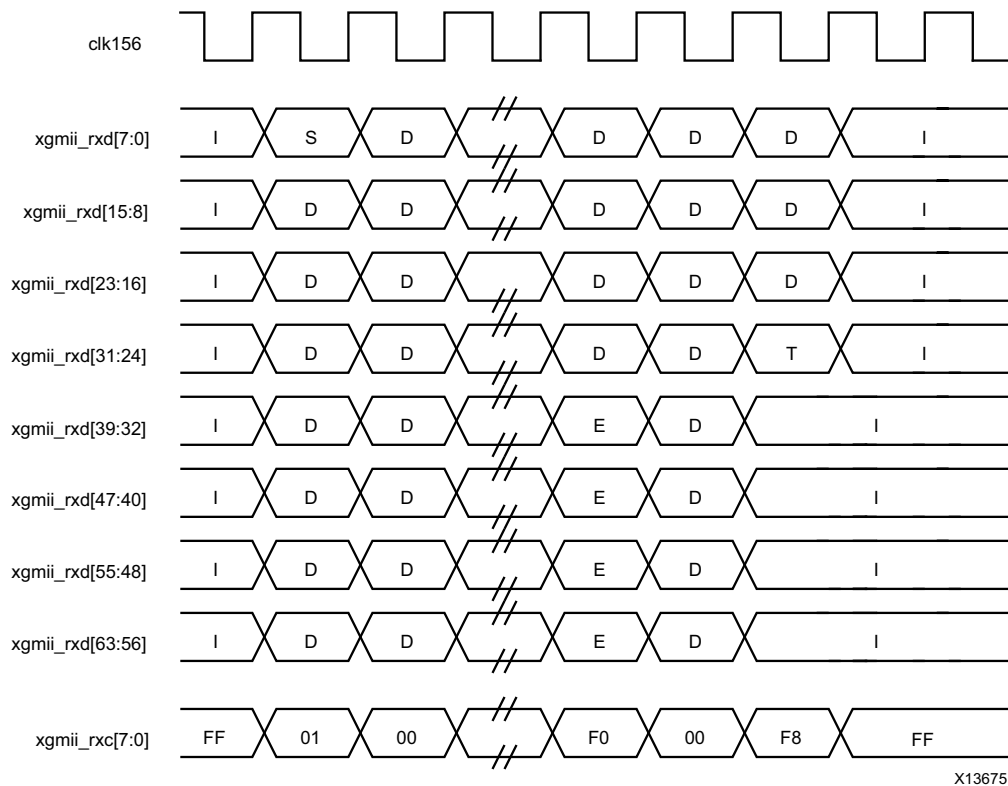

Figure 5-3: Frame Reception Across the Internal 64-bit Client Interface
The timing of a normal inbound frame transfer is shown in Figure 5-3. As in the transmit case, the frame is delimited by a Start character (S) and by a Terminate character (T). The Start character in this implementation can occur in either lane 0 or in lane 4. The Terminate character, T, can occur in any lane.